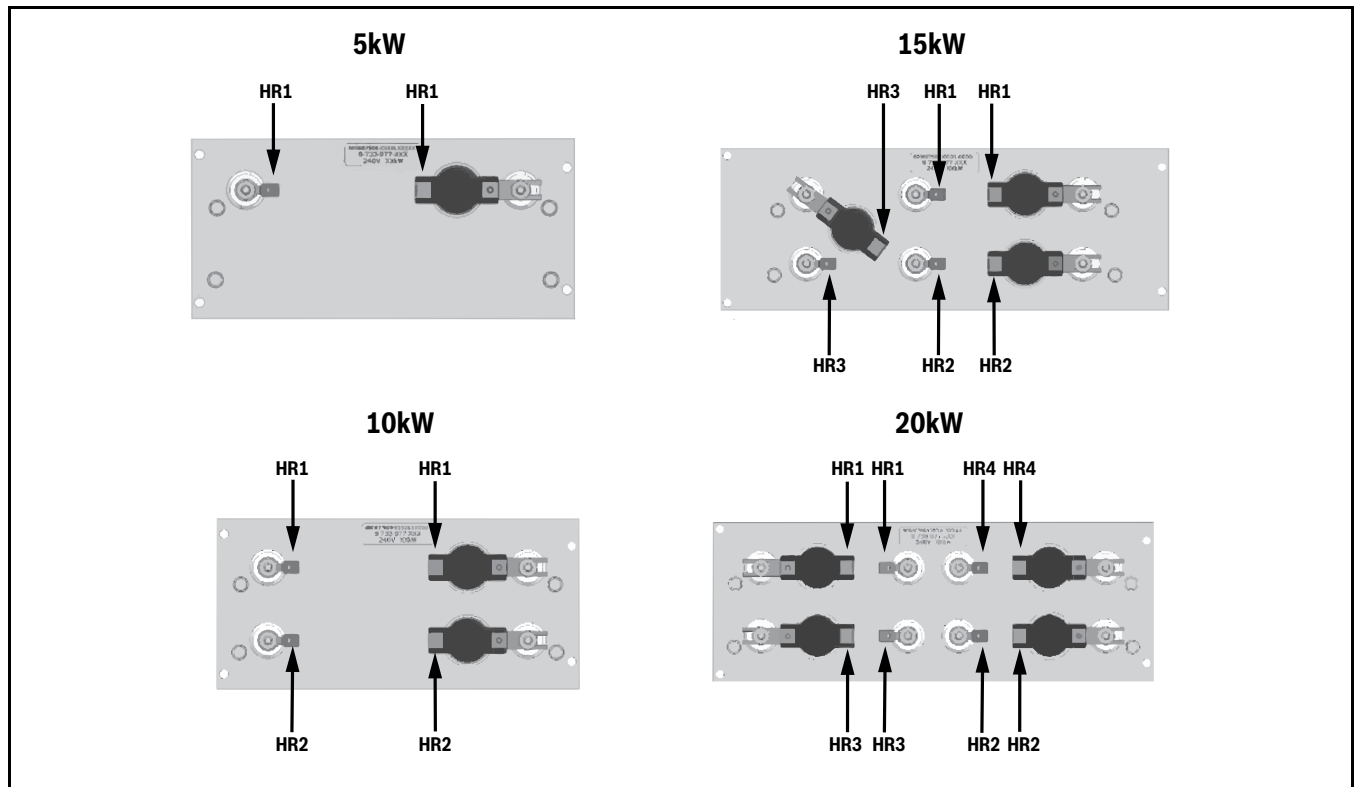

Fig. 26 Heater Elements Switch Pins Connections
8. Connect the red/black (conduit protected) elements wires to heater element switch pins. Each element wire is labeled (HR1, HR2, HR3, or HR4) to facilitate wiring to heater elements switch pins. (There are no polarity for the cable connections.) (→Refer to Fig. 26.)
8. Connect the red/black (conduit protected) elements wires to heater element switch pins. Each element wire is labeled (HR1, HR2, HR3, or HR4) to facilitate wiring to heater elements switch pins. (→Refer to Fig. 26.)